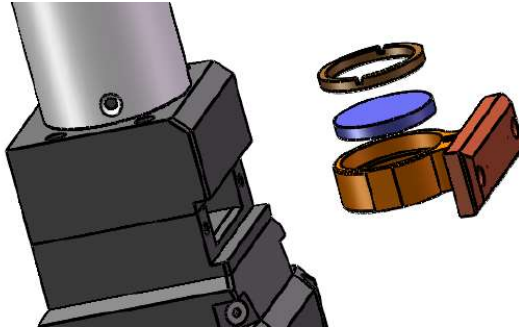

Figure 13. Protective windows of collimate lens.
- (1) Loose the two screws showed in figure 13, and carefully take out of the lens with cover slide drawer;
- (2) Take out of the **screw ring** by tools properly and take out of the lens using your fingers after putting on fingerstall;
- (3) Cleaning the lens, cover slide drawer and **screw ring**;
- (4) Put the cleaned lens back into the cover slide drawer; (No difference in pros and cons)
- (5) Put the **screw ring** back to the cover slide drawer;
- (6) Put the protective windows unit back into the cutting head and then tighten the two screws.